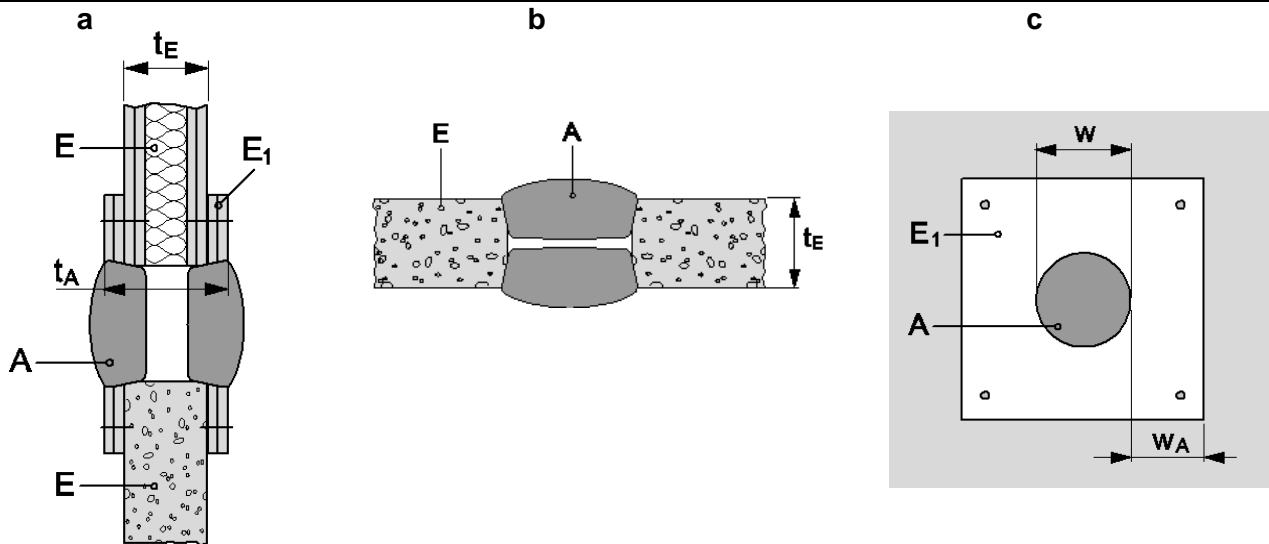

Figure 1: beading and position of the seal in walls / floors
- Construction details (for symbols and abbreviations see figure 1 and Annex 4.1):
- Hilti firestop plugs CFS-PL (A) of seal thickness  $t_A \geq 150$  mm, centered regarding the thickness of the wall (E); beading (E1) according to 2.1.2.
- Hilti Firestop Plugs CFS-PL (A) of thickness  $t_A \geq 150$  mm, flush with the soffit of the floor (E);
- Hilti firestop plugs CFS-PL (A) on each side.
- for abbreviations see A3.1.2 Figure 1